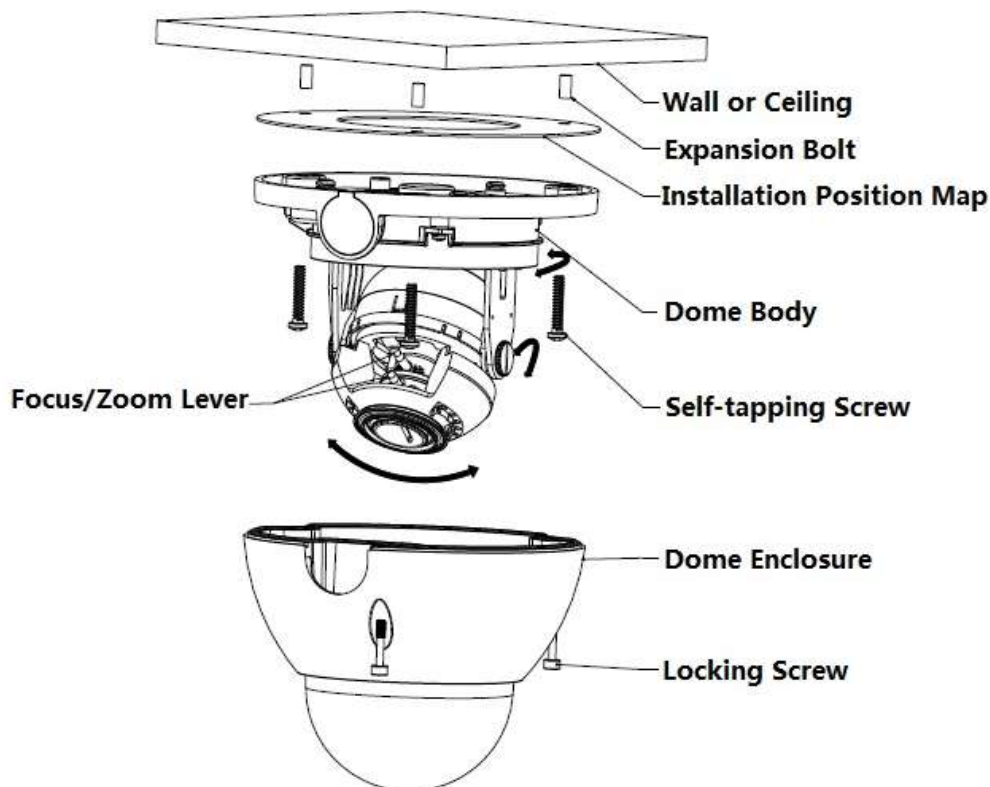

Figure 3-1
- If it is the motorized vari-focal camera, you can adjust the lens zoom and focus on the back-end HCVR device to make image clear, and then adjust the lens angle according to the direction shown in Figure 3-1. Tighten the screws to fix the lens after it is adjusted to a proper angle.
- If it is the manual vari-focal camera, you can use focus/zoom lever to adjust lens focal length to make image and tighten the lever after it displays image on the back-end HCVR device, then adjust the lens angle according to the direction shown in Figure 3-1. Tighten the screws to fix the lens after it is adjusted to a proper angle.